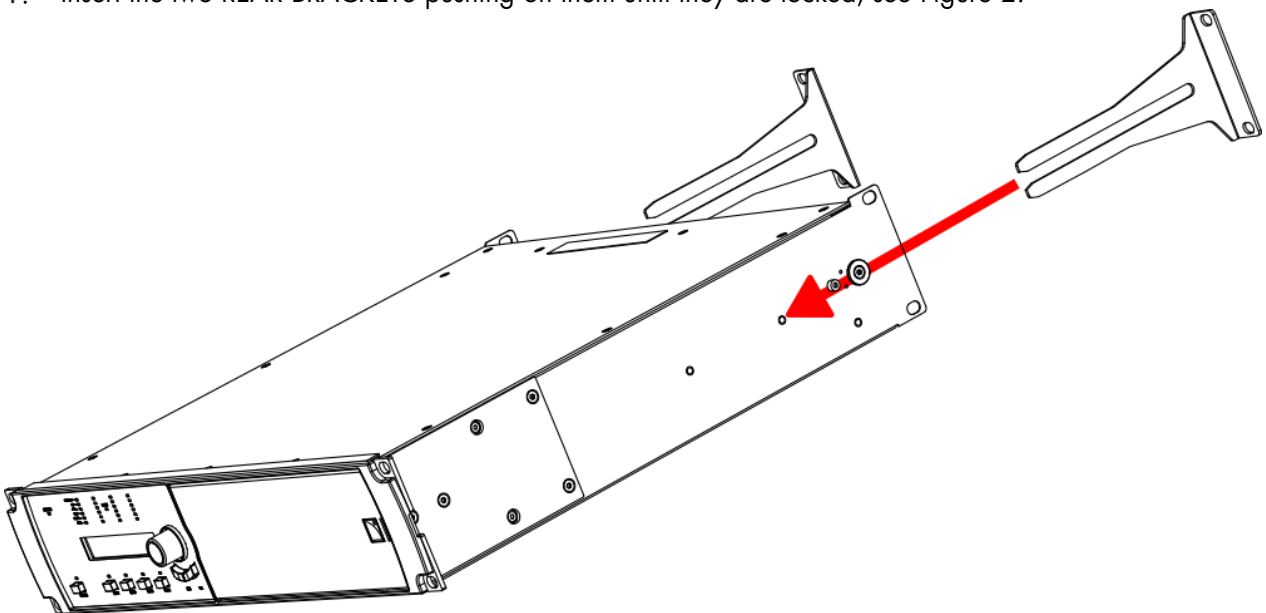

Figure 2: Mounting the REAR BRACKETS
1. Insert the two REAR BRACKETS pushing on them until they are locked, see Figure 2.